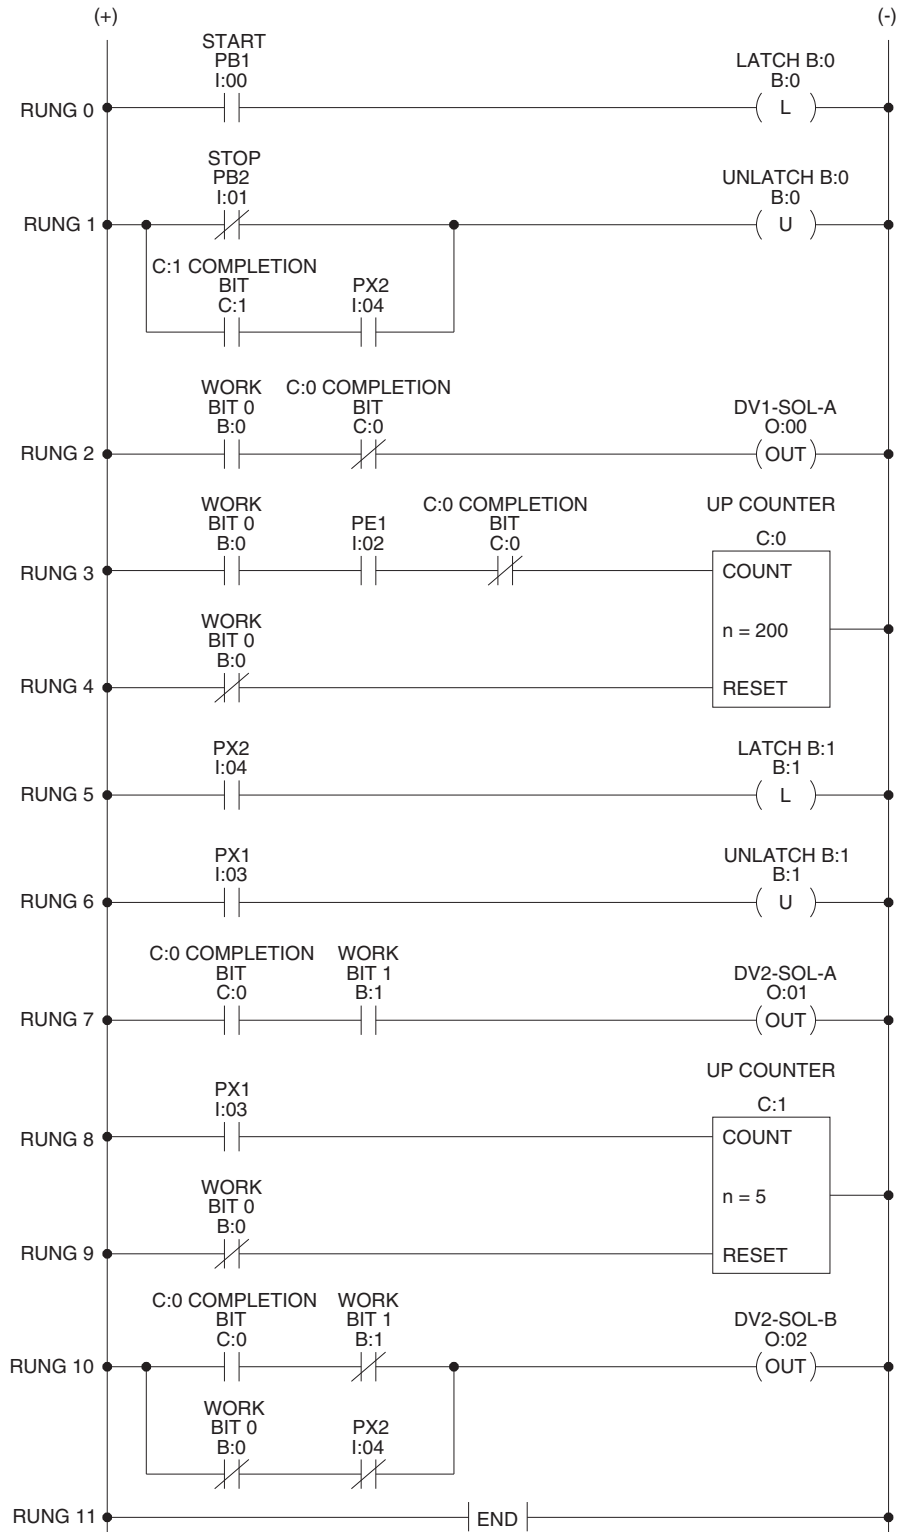

Figure 6-2. PLC ladder program.
- ☐ 4. Enter the PLC ladder program shown in Figure 6-2, using the instruction address format appropriate to your model of PLC.
- ☐ 11. Cycle the system a few times and monitor the PLC program as it is executed. What causes the motor to start rotating when PB1 is depressed? Explain by referring to the PLC ladder program shown in Figure 6-2.
4. In the PLC ladder program of Figure 6-2, what purpose is served by NC contact instruction C:0 in rung 3?
5. In the PLC ladder program of Figure 6-2, what purpose is served by NC contact instruction B:0 in rung 4?